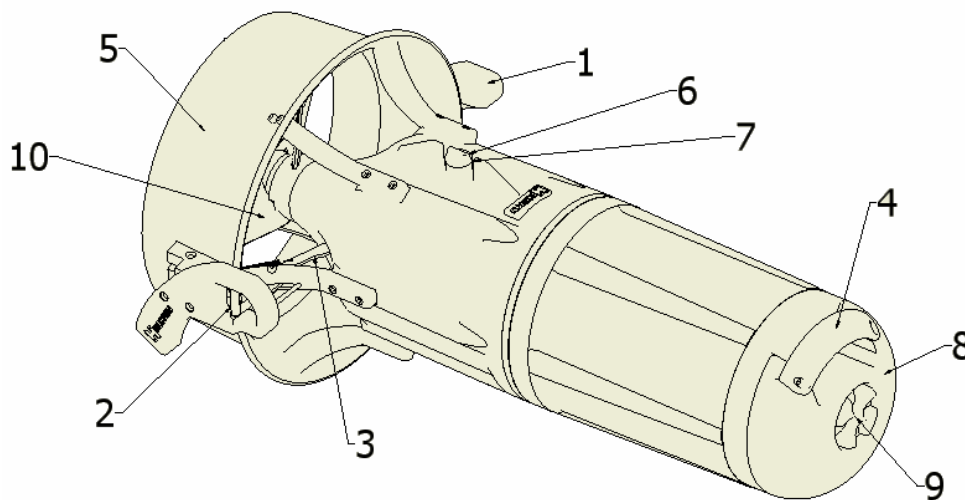
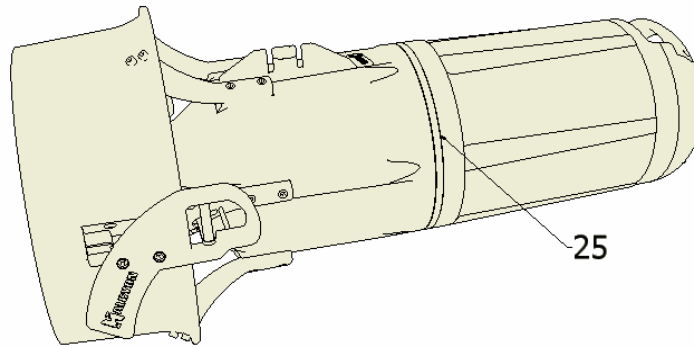

Figure 1
Figure 7
The HDV consists of a perfectly watertight, streamlined, hollow body, see figure 1, inside which the electric motor, rechargeable batteries and speed-reduction gear are housed. On the outside, two manoeuvring handles (1) are found at the rear, one of which has an integrated trigger (2) to control propeller rotation by means of a lever (3). At the front, a handle (4) is used for gripping and carrying the vehicle. The propeller (10) is located at the rear end and is protected by a surrounding circular strip which constitutes the flow conveyor (5). The main switch (6) used to select one of the two speeds (7), is also found at the rear.
Turn the switch (6) (see fig. 1) to the required speed. The on light, blue led, (25)(see fig. 7) should turn on.
Grasp the two HDV handles (1) (fig. 1) or, if using the tow cord, hook the carabineer to the tow sling.
When finished use, turn the switch (6) (7) so that the blue led turns off (see fig.7).
A second red led is found next to the blue led (25) (see fig. 7).
Speed can be regulated slow or fast, see the previous paragraph fig 7.